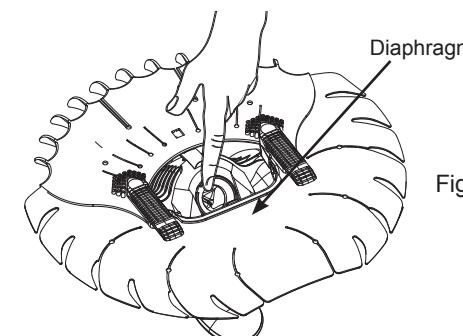

Figure 1
- Turn cleaner over (see Figure 1).